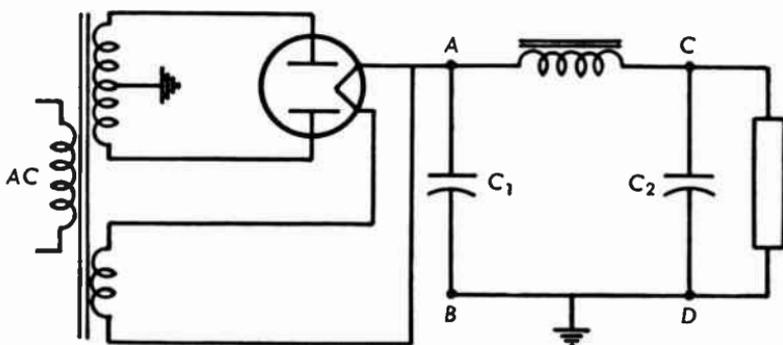

Fig. 9.03a Full-wave rectifier with filter circuit.
**9.03** The rectifier type 80 is used in the rectifier circuit of Figure 9.03a. The line voltage is 117 volts, 60 cycles, the secondary high voltage is 800 volts from plate to plate,  $L = 25$  henries, 2000 ohms,  $C_1 = 4$  microfarads,  $C_2 = 8$  microfarads. The d-c load draws 80 milliamperes from the rectifier. What is the *approximate* ripple voltage at  $AB$ ? At  $CD$ ?